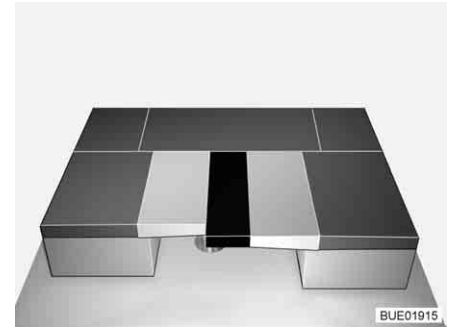

Fig. 102 After conversion
- Insert the additional cushion between the back cushions (see Fig. 102).